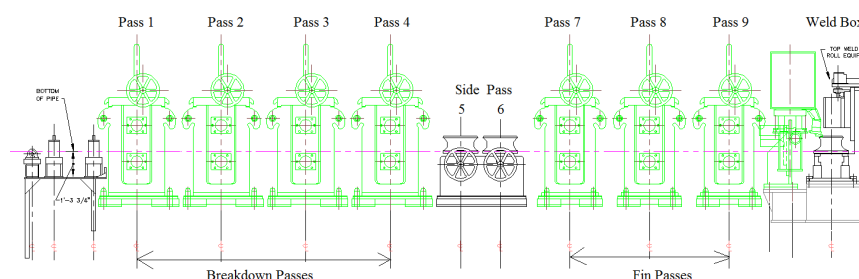

Figure 1 TMK IPSCO 8" pipe mill layout
A typical ERW pipe roll forming process consists of the uncoiler, accumulator, forming stands, welding stand, seam annealing, cutoff, finish and inspection for making pipes used on the oil and gas industry. The forming part of a pipe mill generally includes the breakdown passes, Fin passes, welding pass, sizing passes and turkshead (TH). The incoming flat sheet is continuously formed as it goes through each pass until it reaches the required shape. The forming section is the key part of the pipe mill to ensure consistent dimension and weld quality. The proper forming up to the weld box is very critical to insure good quality of the products. This paper focuses on the forming behavior up to the weld box. Figure 1 shows a TMK IPSCO 8" pipe mill layout before the weld box, which includes four breakdown passes and two side passes, followed by three Fin passes. This mill will be used for analyzing forming characteristics.